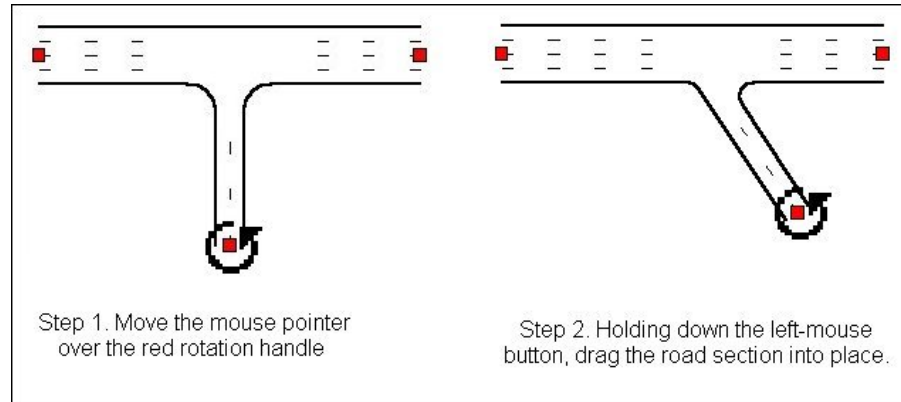

Figure 4.3 - Rotating the road sections.
- 2. Hold your left-mouse button, then drag the road segment to the desired angle as shown in figure 4.3**